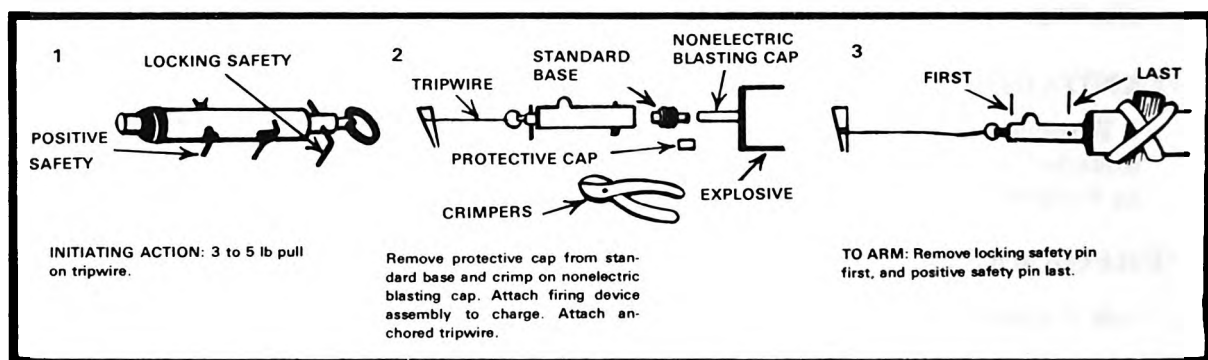

Figure 2. M1 pull firing device.
2. To install an M1 pull firing device (figure 2).